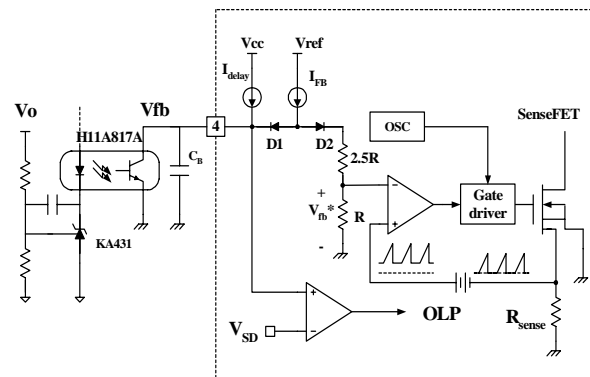

Figure 5. Pulse width modulation (PWM) circuit
2. Feedback Control : FSDM07652R employs current mode control, as shown in figure 5. An opto-coupler (such as the H11A817A) and shunt regulator (such as the KA431) are typically used to implement the feedback network. Comparing the feedback voltage with the voltage across the R_{sense} resistor plus an offset voltage makes it possible to control the switching duty cycle. When the reference pin voltage of the KA431 exceeds the internal reference voltage of 2.5V, the H11A817A LED current increases, thus pulling down the feedback voltage and reducing the duty cycle. This event typically happens when the input voltage is increased or the output load is decreased.
2.1 Pulse-by-pulse current limit: Because current mode control is employed, the peak current through the Sense FET is limited by the inverting input of PWM comparator (V_{fb}^*) as shown in figure 5. Assuming that the 0.9mA current source flows only through the internal resistor ($2.5R + R = 2.8 \text{ k}\Omega$), the cathode voltage of diode D2 is about 2.5V. Since D1 is blocked when the feedback voltage (V_{fb}) exceeds 2.5V, the maximum voltage of the cathode of D2 is clamped at this voltage, thus clamping V_{fb}^* . Therefore, the peak value of the current through the Sense FET is limited.